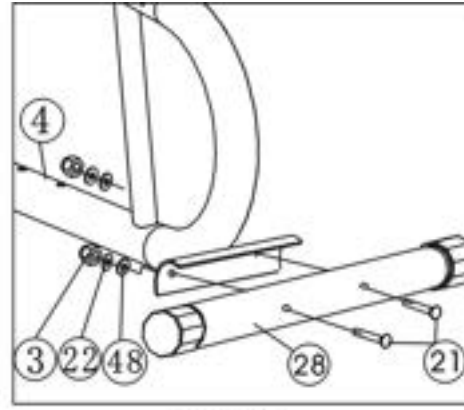

Figure 2
(22) and Cap nuts (3). (See figure 2)